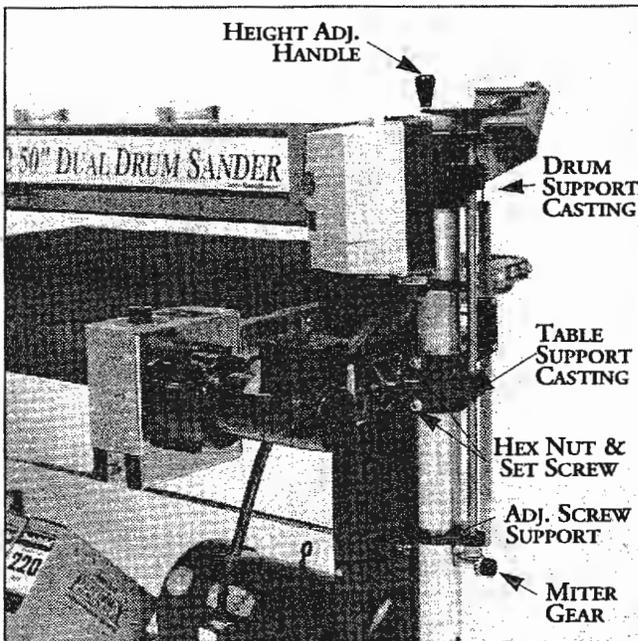

Fig. 19. Table support casting set screws.
When troubleshooting the height adjustment mechanism, first check the conveyor table for level (see page 7). Then test the height adjustment mechanism (See Fig. 19). If it does not operate
1. Loosen the set screws located at the front of the table support castings (Fig. 19).
3. If the height adjustment feels stiff, check for misalignment of adjusting screw supports and the drum support castings which could cause binding on the adjusting screw rods (Fig. 19). These castings can be adjusted by loosening the set screws which secure them to the column tubes. Realign the adjusting screw supports by loosening the two set screws that hold them to the column tubes and rotate to the proper position.
4. The adjusting screw supports located immediately below the height adjustment handle and the left (outboard) drum supporting casting (Fig. 19)
must both be set at the proper height along the column tubes so the height adjusting screws provide for proper miter gear alignment. Before adjusting these parts, tighten one set screw in the table support castings (Fig. 19) to hold the height adjusting screw in position during adjustment.
Also check to see that the column tubes are centered inside the bore of the table support castings (Fig. 19). If not, loosen the casting bolts and tighten the set screws at the front of table support casting to center the tube. Retighten the bolts and loosen the set screws.
sive space, move the adjusting screw support to the proper distance above the miter gear and retighten. Loosen the set screws in the table support castings (Fig. 19) and test for smooth operation.